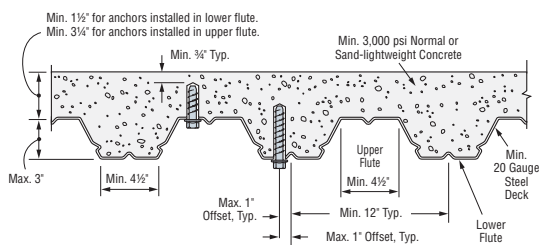

Figure 1. Installation of $\frac{3}{8}$ " and $\frac{1}{2}$ " Diameter Anchors in the Soffit of Concrete over Metal Deck
- For anchors installed in the soffit of sand-lightweight or normal-weight concrete over metal deck floor and roof assemblies, as shown in Figure 1 and Figure 2, calculation of the concrete breakout strength may be omitted.